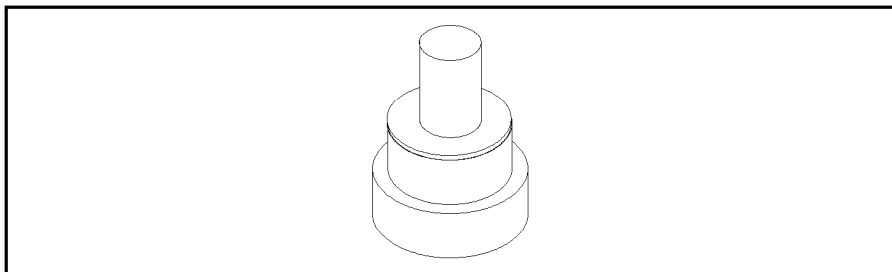

Figure 4-15. Placing Step-Window Gasket over Guide Ring
2. Using the tweezers, place the step-window gasket over the guide ring, see Figure 4-15.